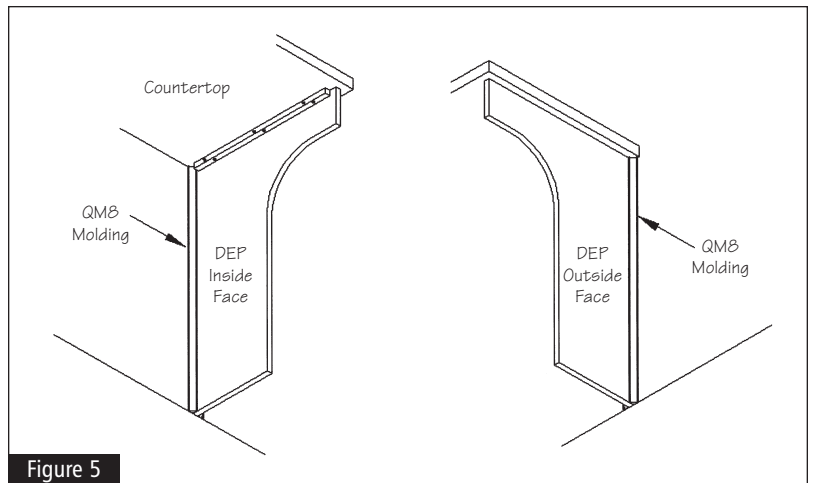

Figure 5
- 4** To ensure a secure attachment, trim and attach a piece of QM8 inside corner molding on both sides of the DEP with finishing nails. See Figure 5.